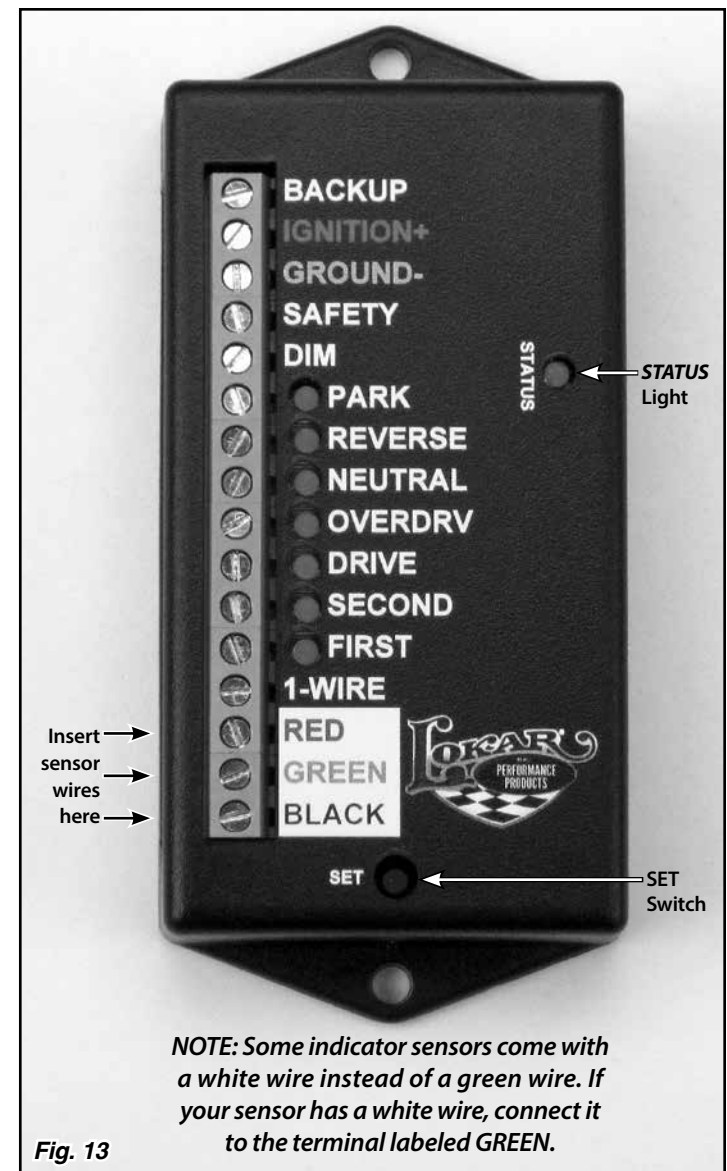

Fig. 13
The sensor has a 10 foot long cable attached to it. This cable contains three wires which connect to the decoder box: one red wire, one wire that can be either green or white, and one black wire. To connect the wires to the decoder box, use a small flat blade screwdriver to loosen the screw terminal. Strip 3/8" of the insulation off of each of the wires. Connect the red wire to the terminal marked RED. Connect the green or white wire to the terminal marked GREEN. Connect the black wire to the terminal marked BLACK. **Fig. 13**
Connect one end of a black wire (not supplied) to a solid chassis ground. Join the other end of that wire to the black wire from the LED indicator. Insert the joined end of those wires into the "GROUND-" terminal on the decoder box and tighten the terminal screw. **Fig. 13**
Step 2: Press and hold the set switch. **Fig. 13** Turn the ignition key on while holding the set switch down. Then, release the set switch.